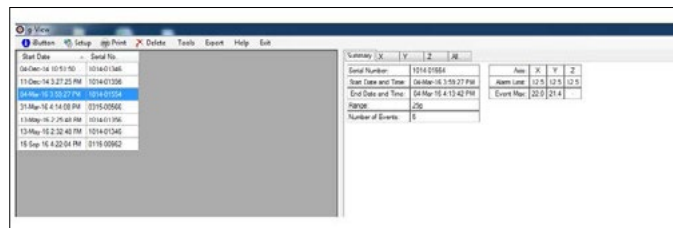

Figure 21
6. The data can now be seen in the software (Figure 21).